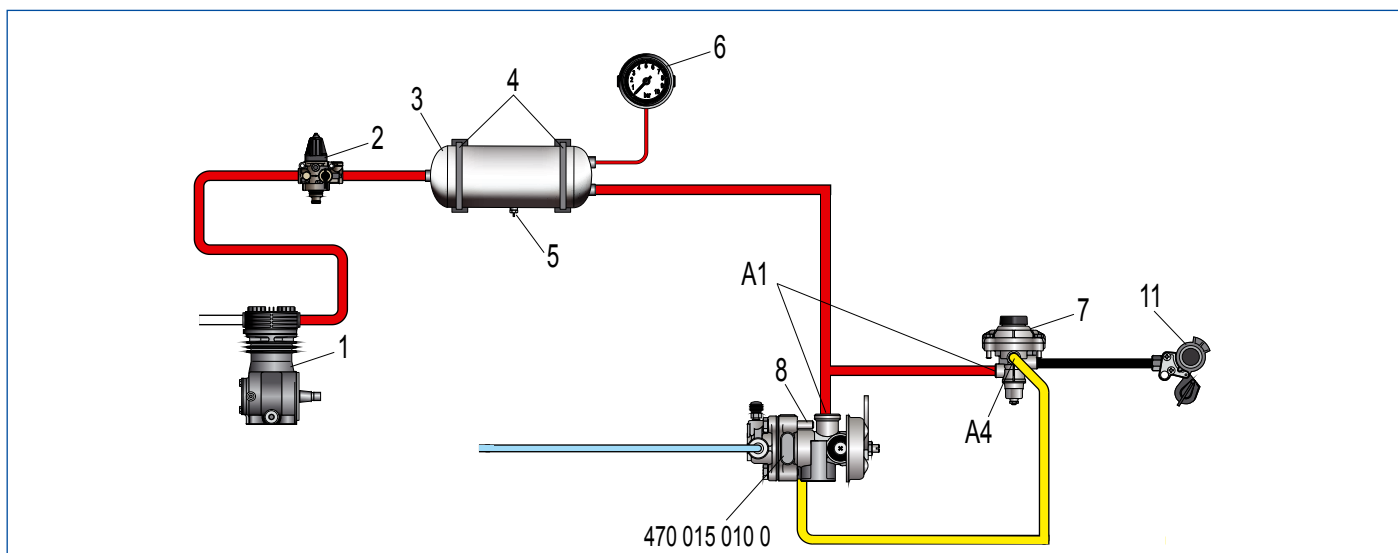

Fig. 6: Alternative system as single line system
Alternatively (Fig. 6) you can use trailer control valve 470 015 010 0 (as pos. 8) in connection with trailer control valve 471 200 008 0 (pos. 7).